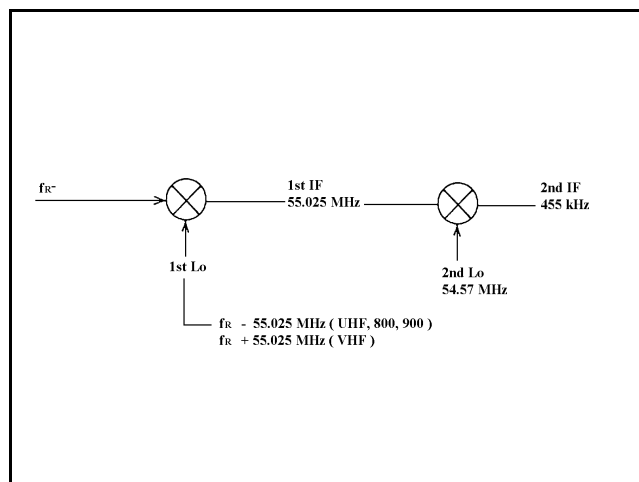
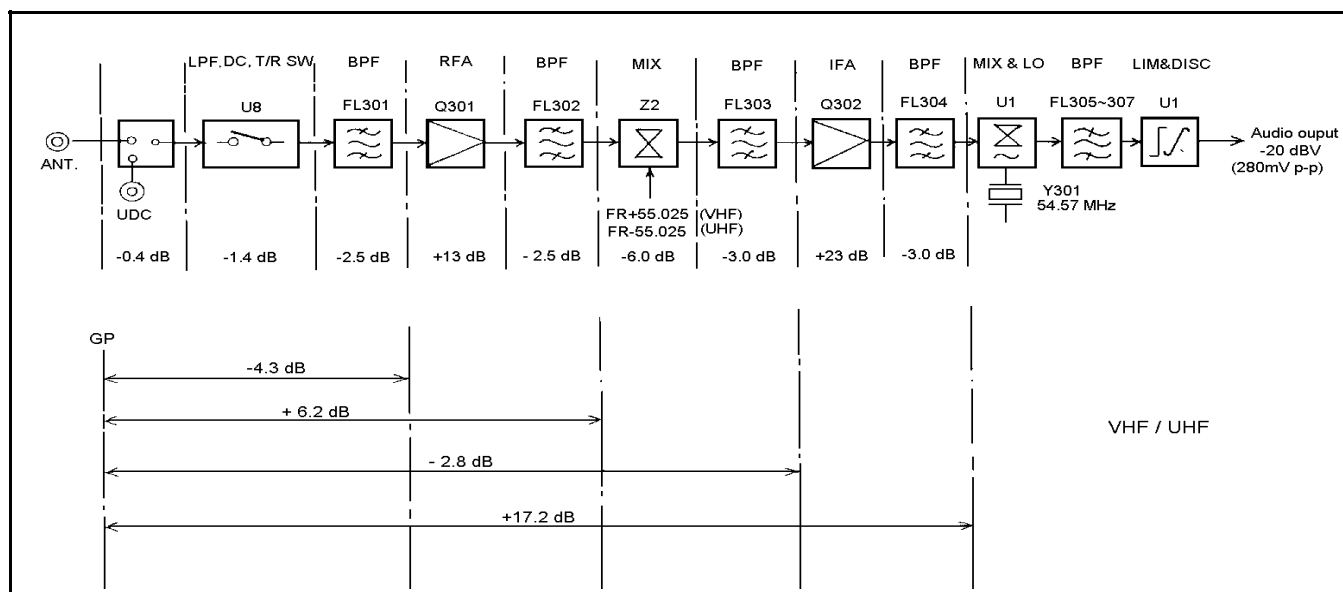

Figure 7 - Frequency Relationship Diagram
Figure 8 - Typical Level Diagram
- a. Level Diagram : A Frequency Relationship Diagram is shown in Figure 7 and a Typical Level Diagram is shown in Figure 8.
- (1) C318 is provided for the adjustment of the second local oscillator.
- (2) When the desired channel frequency with standard modulation is applied to the antenna terminal, adjust C323 for maximum output at RX Audio.
- a. Check the Local Oscillator Frequency. Check the frequency after connecting a frequency counter through a 1 PF capacitor to the collector of Q103. The frequency relation at various stages is shown In Figure 8. If a frequency error is 1.5 PPM or more in the temperature range of 20 to 25C, adjust the frequency of VCTCXO (Z1). The frequency of VCTCXO is 13.2 MHz.